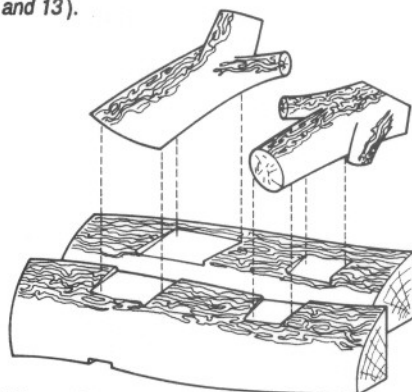

Figure 12
Step 13. Carefully position and center the lower logs onto the burner with the larger log in front. These logs will "surround" the colorization rod located on the burner. Place the two smaller logs across the two lower logs in the manner illustrated and position log set against back wall (Figures 12 and 13).